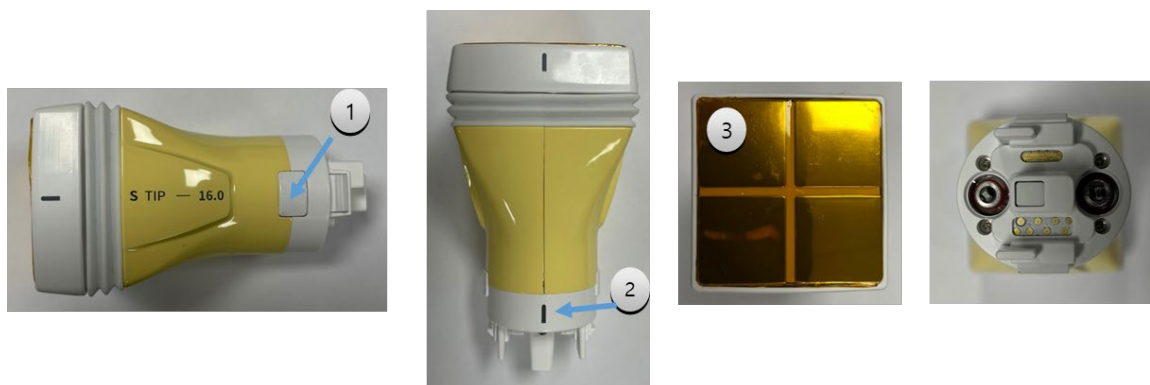

Figure 3.4 Tip detached from Handpiece
- The Tip conductively cools the epidermis during treatment. Cooling water from the Chiller Assay is supplied to the cooling plate of the Tip via the water pump and the Handpiece. The cooling water then flows back into the Chiller Assay and has a repetitive circulation structure where it is continuously cooled. Figure 3.4 shows the tip.